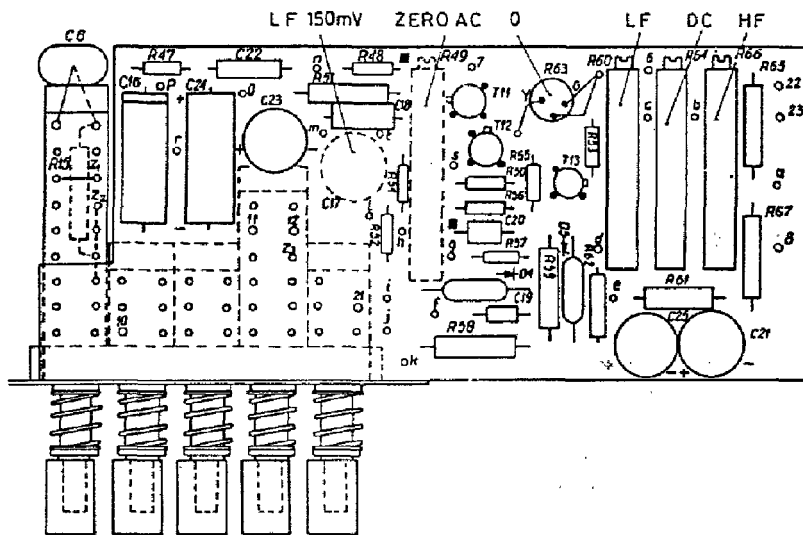

Fig 4.2 Converter P.C.B. (B-31-1504A) Layout
- (iv) AC/DC CONVERTER ZERO - Short circuit the input leads and with the FET Multimeter set to the 150 mV LF range adjust R49 located on the Converter Board (see Fig. 4.2) for a zero indication.